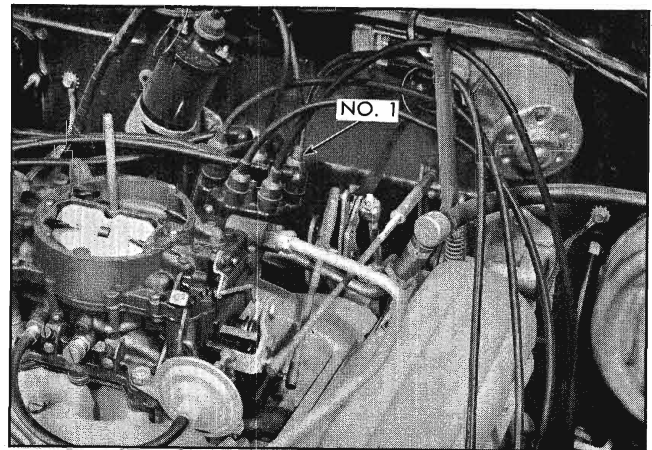

Fig. 11-59 Location of No. 1 Spark Plug Cable Terminal
6. Install spark plug wires in distributor cap. Place wire for No. 1 cylinder in tower shown in Fig. 11-59 (marked on old cap during disassembly) then install remaining wires counterclockwise around the cap according to the firing order (1-8-4-3-6-5-7-2).